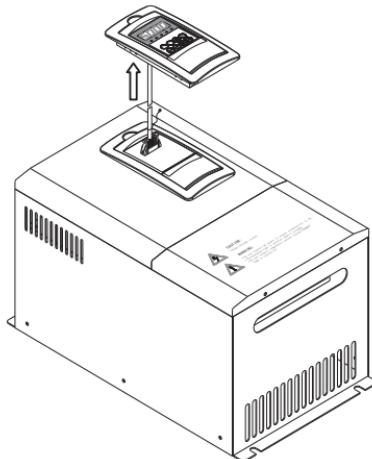

Fig. 3-15 Mounting Diagram for the operator panel and connecting wire of the inverter Model B
**Step 4.** Put the dismantled keypad into the installation frame ,Fix and fasten it . Put the other side cable insert into the plug of the keypad .(as shown in Figure 3-15).